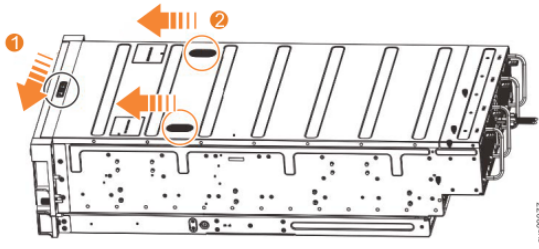

Figure 127. Releasing the 5U expansion enclosure cover
2. Slide the release latch (**1**) in the direction that is shown in Figure 127 on page 177.
3. Slide the cover toward the front of the expansion enclosure (2), as shown in Figure 127 on page 177.